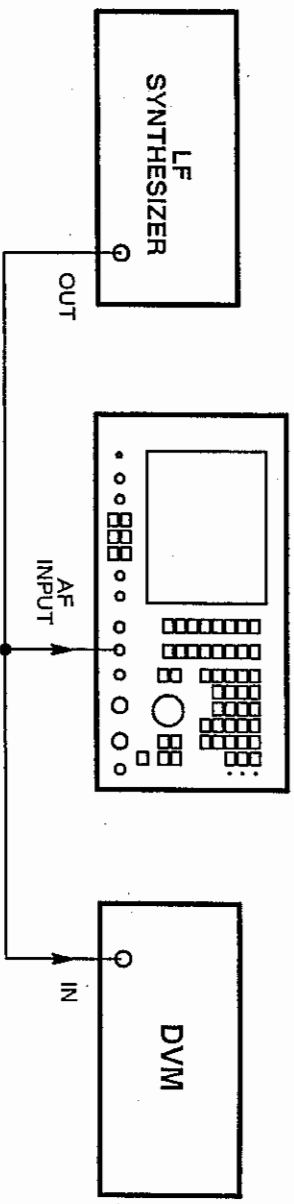

Fig. 6-8 Test equipment connections for voltmeter frequency response
- (1) Connect the LF generator and the DVM to the AF INPUT socket. See Fig. 6-8.
- (2) On the 2955A, set the MODE to AUDIO TEST, AC DC to AC, FILTER to 50 kHz LOW PASS and DIST'N to off.
- (3) Set the synthesized LF generator to give a 1 kHz sinewave at 1 V RMS into 50  $\Omega$ .
- (4) Set the DVM to AC, RMS.
- (5) Check that the AF voltmeter reading is the same as the DVM reading  $\pm 3\%$   $\pm 3$  mV  $\pm 1$  digit.
- (6) Repeat (3) and (5) at other frequencies between 50 Hz and 20 kHz.